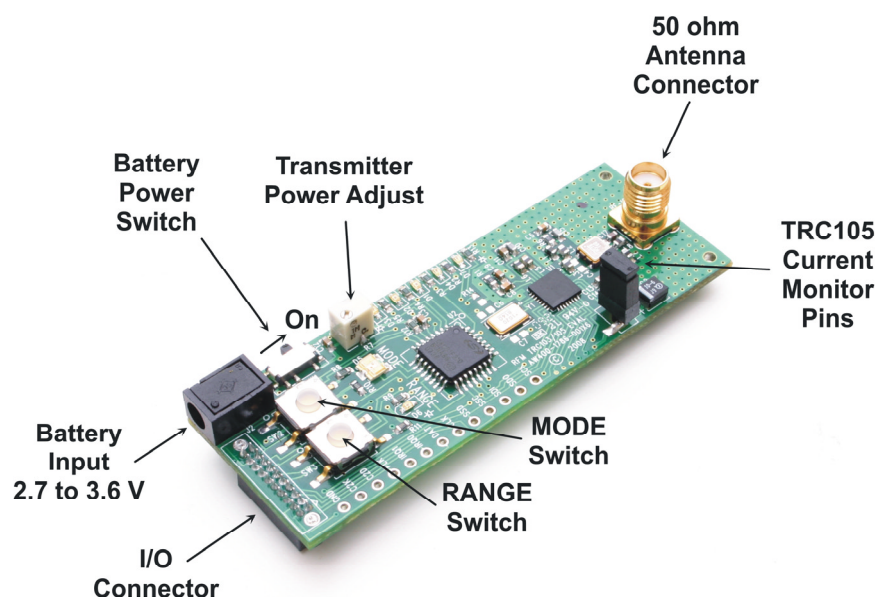

Figure 1 - DR-TRC105 Radio Board Connectors and Controls
The DR-TRC105 radio board connectors and user controls are shown in Figure 1.
2. Turn on the boards by sliding the switch as indicated in Figure 1. All LED's will flash and the MODE LED will be green.